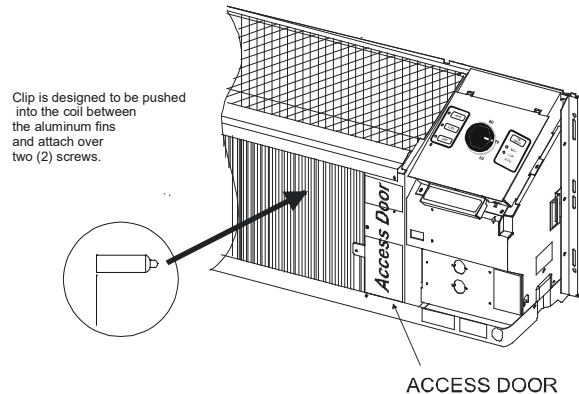
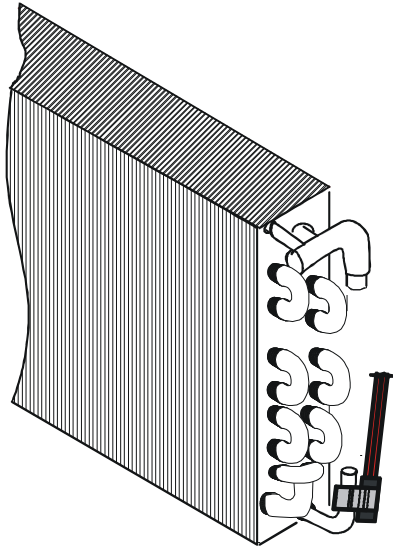

Figure 6
Figure 7
B. If the existing Indoor Ambient Thermistor (with the BLACK wires) was connected to the board by a plug-on connector, reconnect it to the new board on the IAT (black) terminals. If the existing Indoor Coil Thermistor was soldered to the previous board, install the new black thermistor per Figure 6 and connect as above.
C. If the existing Indoor Coil Thermistor (with the RED wires) was connected to the board by a plug-on connector, reconnect it to the new board on the ICT (red) terminals. If the previous board used indoor coil bi-metals, remove and discard the bi-metal devices. The access door will need to be removed on the indoor coil to gain access to the bi-metal. See Figure 6. The Indoor Coil Thermistor will need to clip on the vertical section of the 90-degree bend of the inlet line to the indoor coil. See Figure 7. Connect the Indoor Coil Thermistor to the board as noted above.